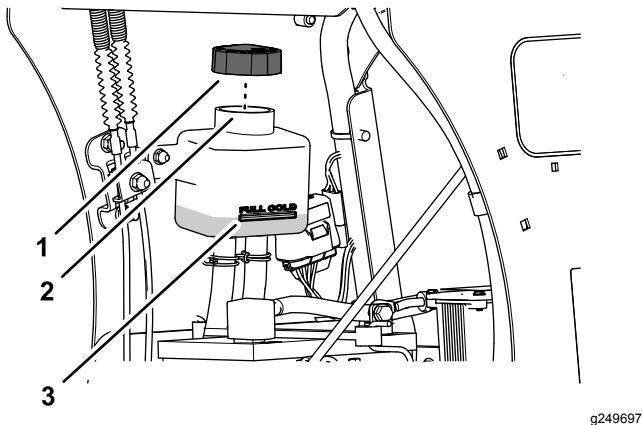

Figure 55
3. Remove the cap from the expansion tank and check the transmission-fluid level in the tank (Figure 55).
4. If necessary, add the specified transmission fluid until the fluid level is at the FULL COLD fill line of the expansion tank (Figure 55).
4. Continue to adding the specified transmission fluid until it reaches the FULL COLD line on the expansion reservoir; refer to Figure 55 in Checking the Transmission Fluid Level \(page 45\).